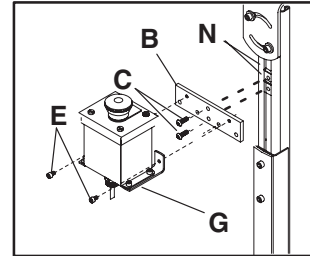

Figure 11
1. Install two Spring Nuts (Figure 11, item N) into Leg slot.